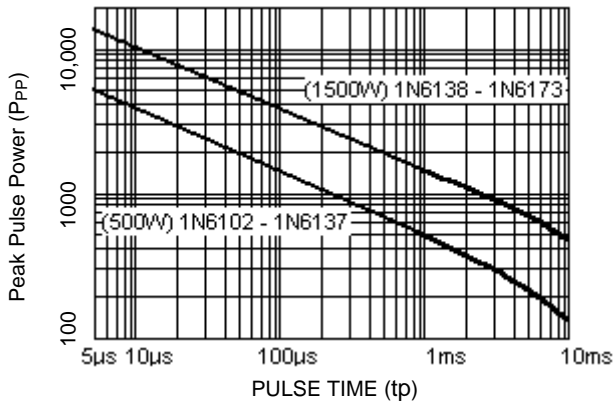

FIGURE 1
- Peak Pulse Power (P_{PP}) at 25°C : 500 W for 1N6102US to 1N6137AUS and 1500 W for 1N6138US to 1N6173AUS @ 10/1000 μs (also see Figures 1,2 and 3)